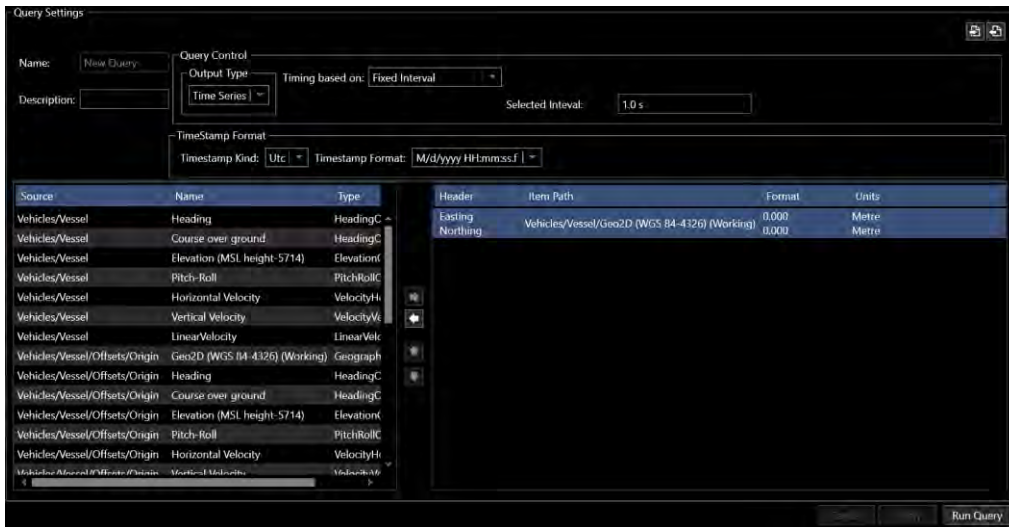

FIGURE 14-22 QUERY SETTINGS
- **Query Settings:** Once the start and end times and data sources are configured the query can be configured. The query settings panel is shown in Figure 14-22.